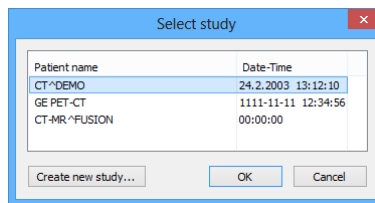

Figure 402 – Select study dialog
1. Select the existing study for the insertion of the new series from the studies list in the **Select study** dialog (see Figure 402).